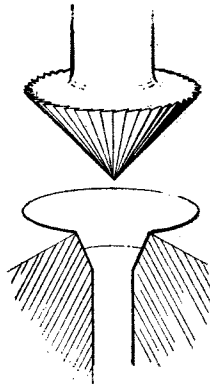

Fig. 4 Countersinking
7. **Countersinking.** To remove burrs from the edge of a hole, or to countersink a hole for a screw head or rivet, a rose bit is used (Fig 4). For steel, or other hard metals, a rose bit is not suitable and a large size twist drill must be used.